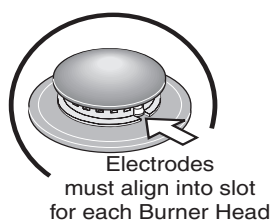

Figure 6B
4. Match the letters stamped on Burner skirts with Burner Heads and Burner Caps on cooktop. Carefully align the Electrodes into slots of the Burner Heads (Figure 6B).